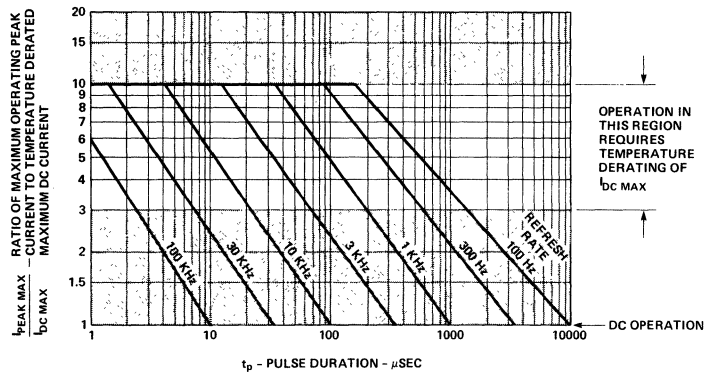

Figure 1. Maximum Tolerable Peak Current vs. Pulse Duration.
Figure 1 relates refresh rate, f , and pulse duration, t_p , to a ratio which defines the maximum desirable operating peak current as a function of derated dc current, $I_{P\ MAX}/I_{DC\ MAX}$. To most effectively utilize Figure 1, perform the following steps:
- Enter Figure 1 at the calculated t_p . Move vertically to the refresh rate line and then record the corresponding value of $I_{P\ MAX}/I_{DC\ MAX}$.